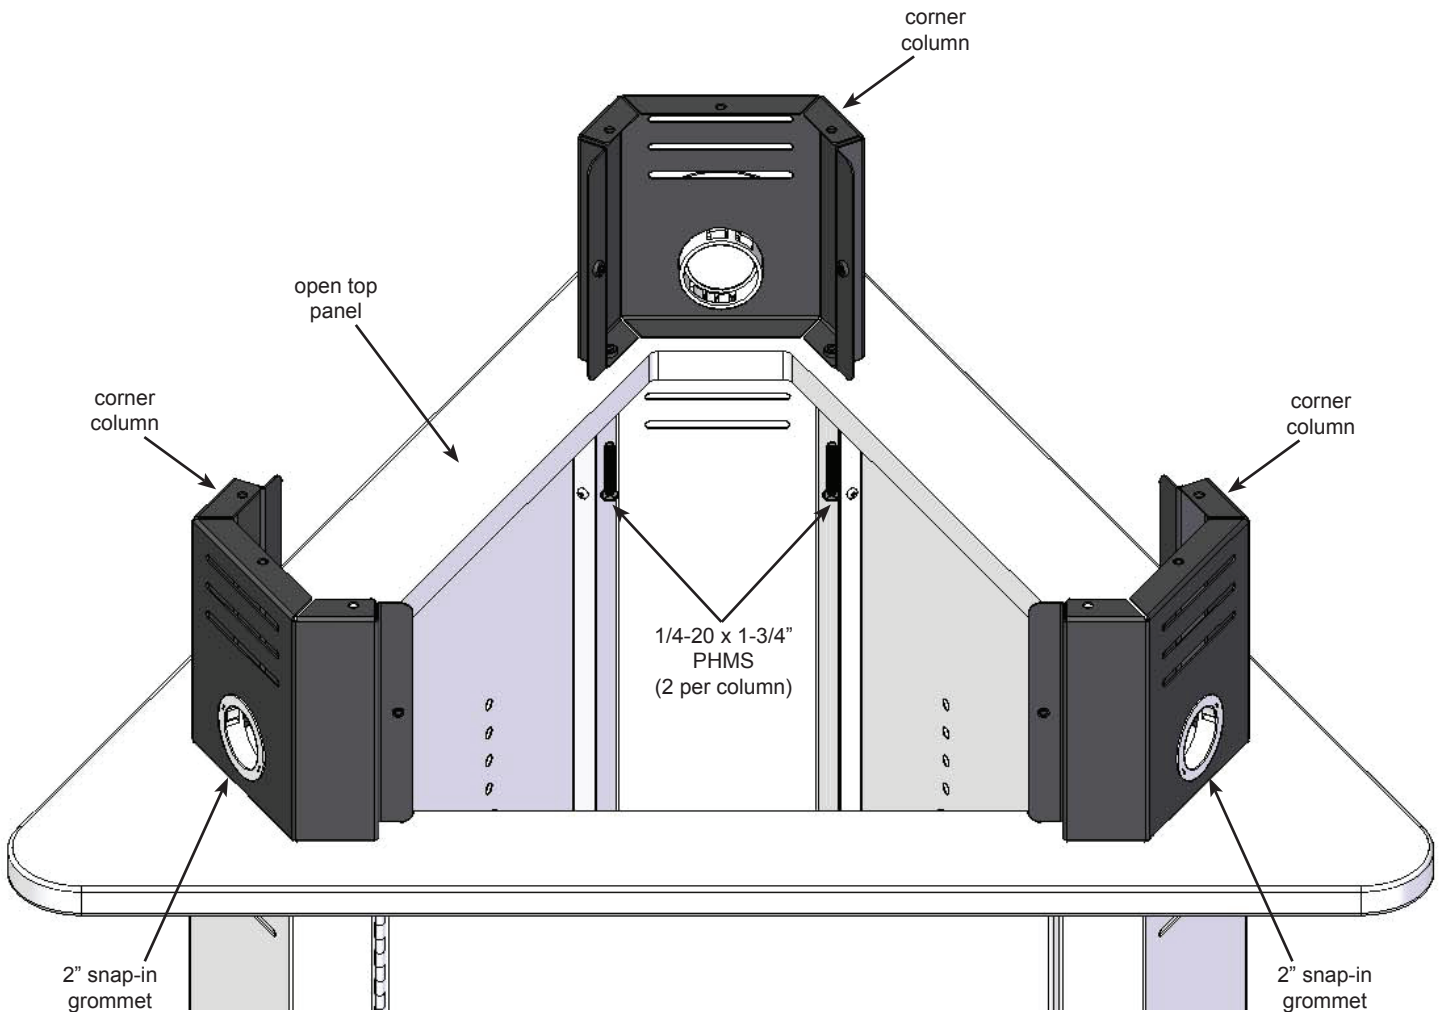

Figure 3A
1. Attach each corner column to the installed open panel top as shown with (2) 1/4-20 x 1-3/4" PHM screws. (installed from under the open top panel). **Figure 3A.** Do not tighten these screws completely yet.